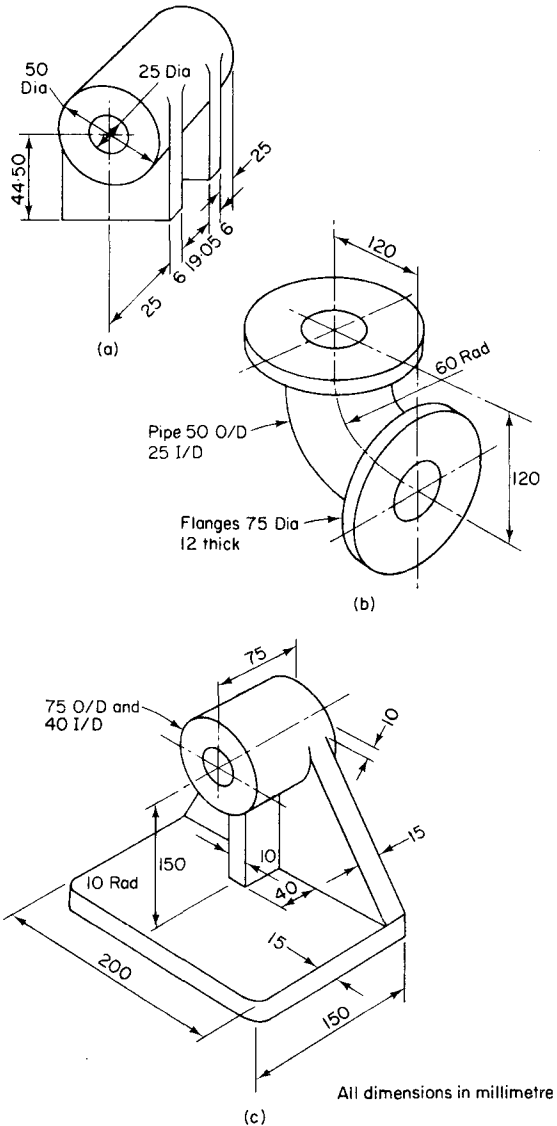

Fig. 3.110
7. Make three-view dimensioned drawings of each of the objects shown in Fig. 3.110.